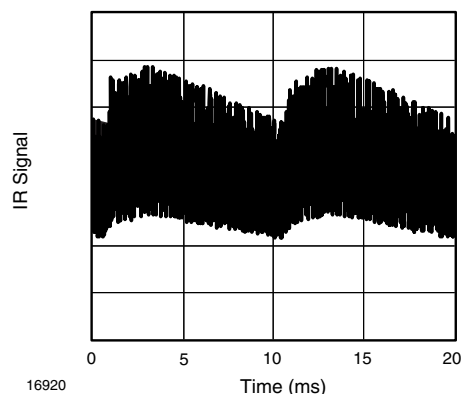
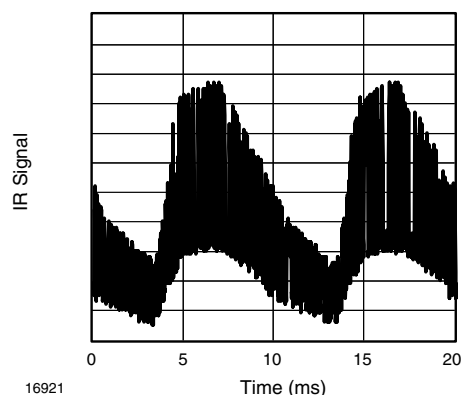

Fig. 13 - IR Signal from Fluorescent Lamp with Low Modulation
Fig. 14 - IR Signal from Fluorescent Lamp with High Modulation
- Modulated IR signals from common fluorescent lamps (example of noise pattern is shown in fig. 13 or fig. 14)